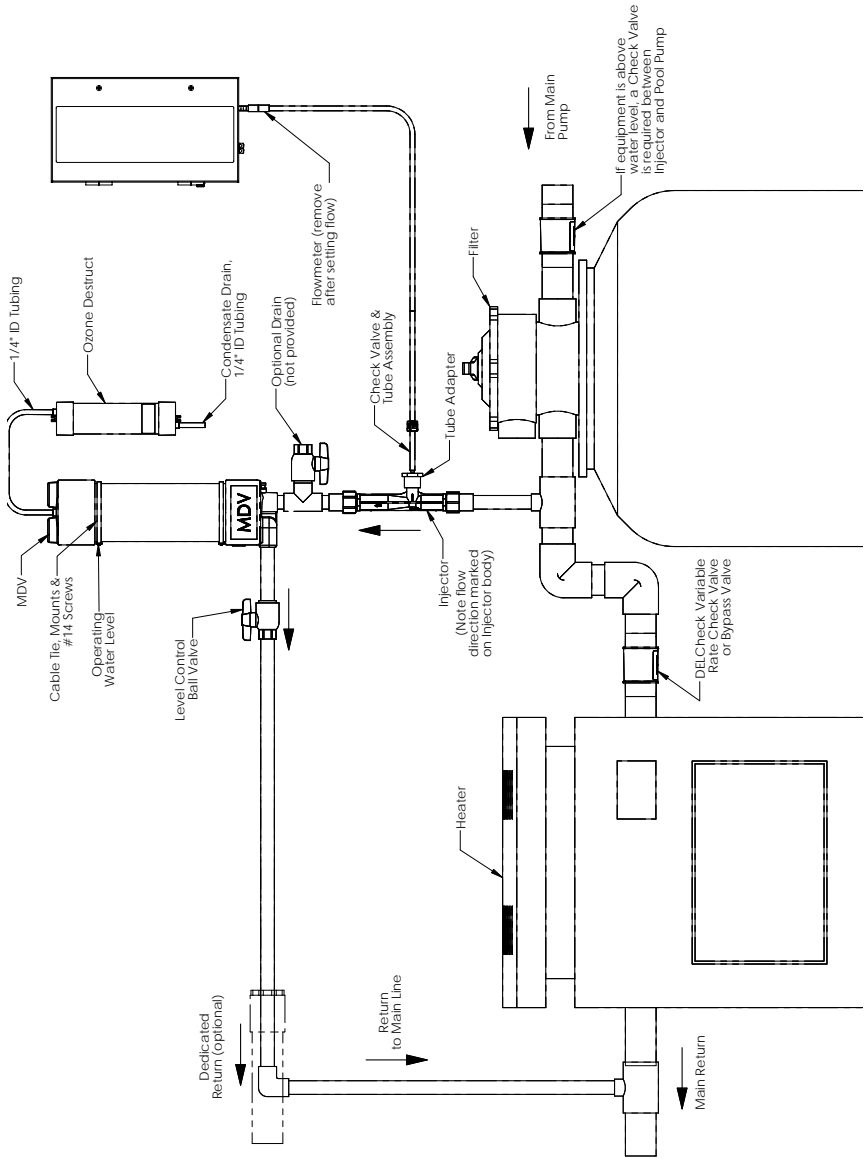

Figure 1: MDV and DEL Ozone Series Installation
2A. Installation (refer to *Figure 1*)
2. Mount the MDV vertically, as shown in **Figure 1**, to a solid surface (i.e. fence, wall, post) using the (2) cable ties, (4) cable tie mounts, and (4) screws included. Use a pair of pliers to tighten and secure the cable tie. If trimming away excess, fold tab over to avoid the sharp edge. To avoid discoloration, mount in an area out of direct sunlight.
3. Mount the (GAC) Cartridge vertically to a flat surface using (2) #6 screws.
4. Install By-pass plumbing as shown in **Figure 1**. Use the appropriate By-pass Valve based on your pump type: